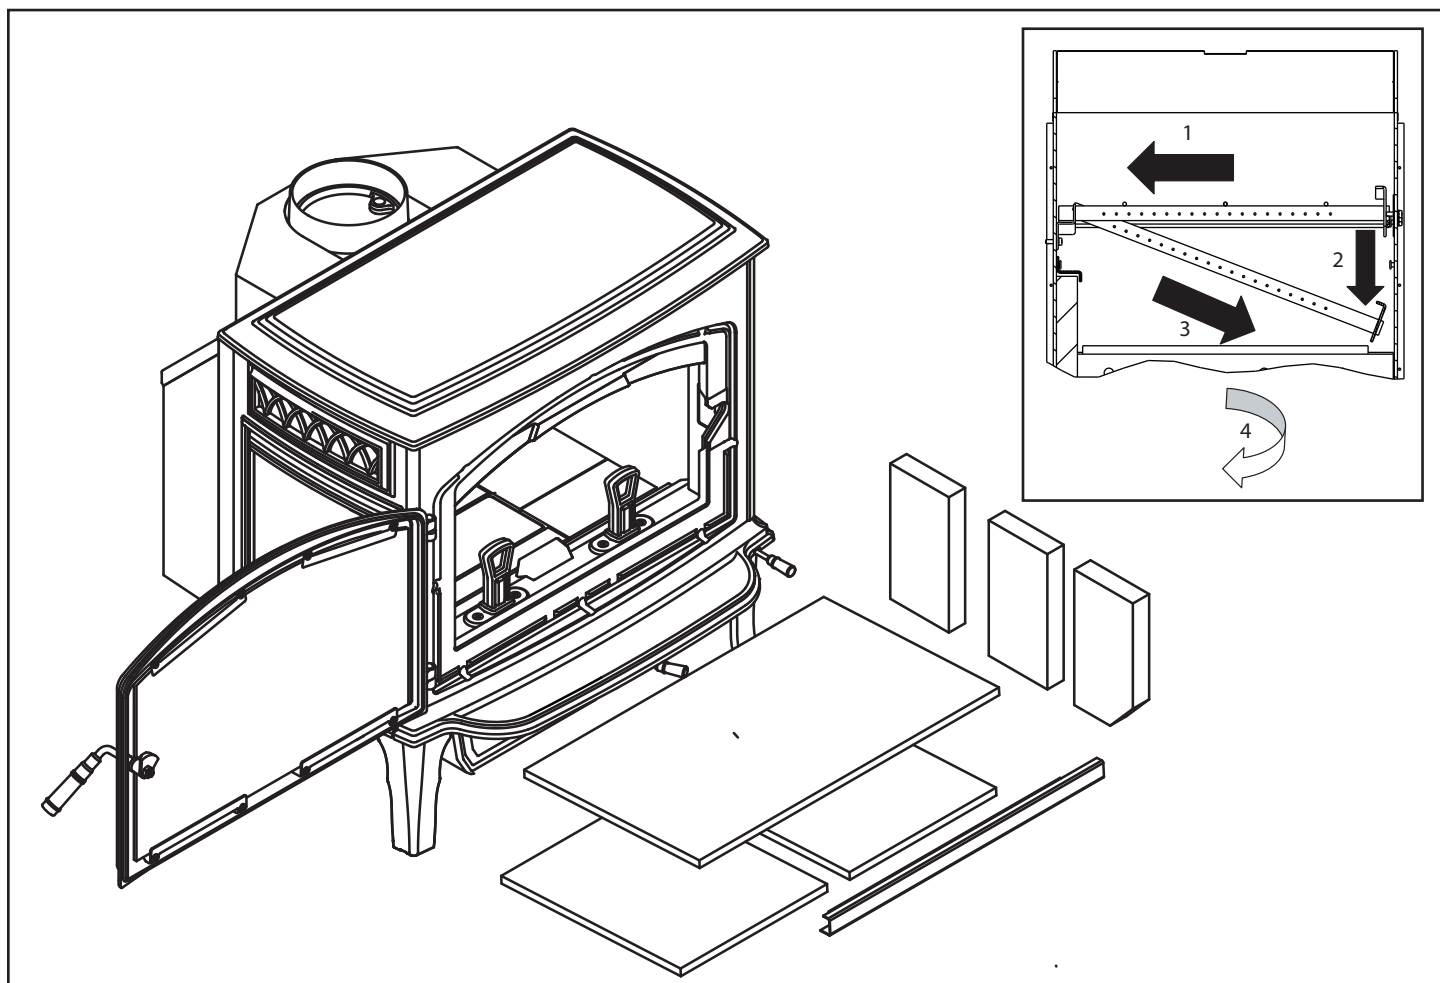

Figure 20.3
4. Slide the tube channel assembly all the way to left until it is off the threads. Drop the right side down, then slide the assembly back to right. **Figure 20.3**